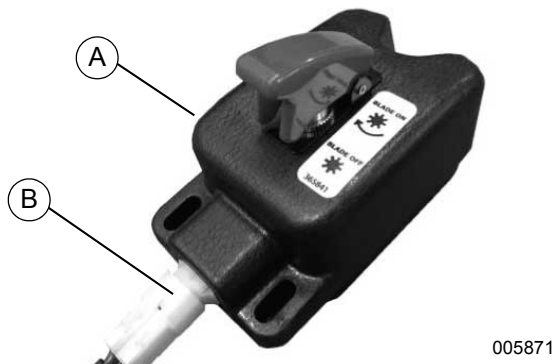

Figure 3-12. Blade Engage/Disengage Remote Control
- See **Figure 3-12**. Remove blade engage/disengage control (A) from connector (B).